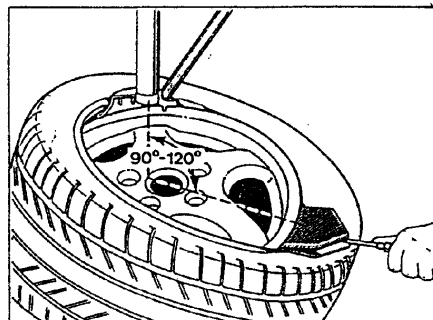

Figure 5
- When starting to fit the second bead, the assembly head should be opposite the tire valve. Then position the second tire bead as flatly as possible on the wheel, pull over assembly head and hold tire down with special tool 9539 (or suitable equivalent tool) approximately 90° to 120° behind this position (Figure 5).